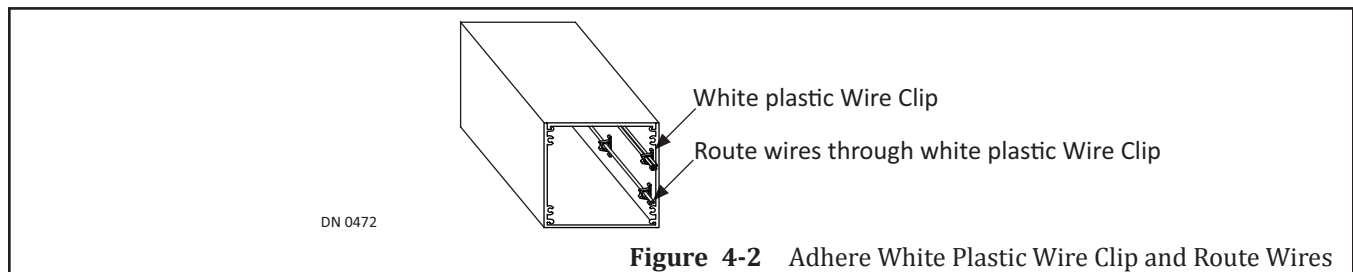

Figure 4-2 Adhere White Plastic Wire Clip and Route Wires
2. Adhere each Wire Clip to sides of Header. Insert wiring (as deemed necessary). Please see Figure 4-2.